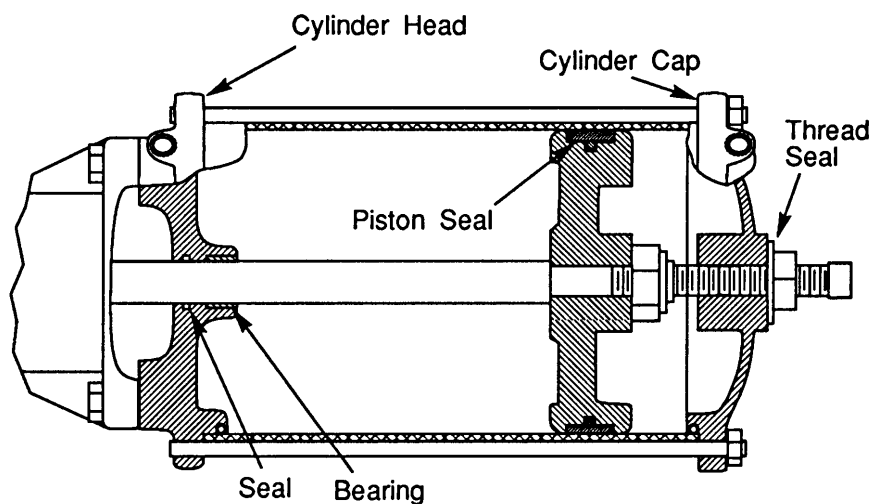

Figure 2 – Cylinder Parts Location
2. Attach the cylinder head to the actuator. See Figure 2.